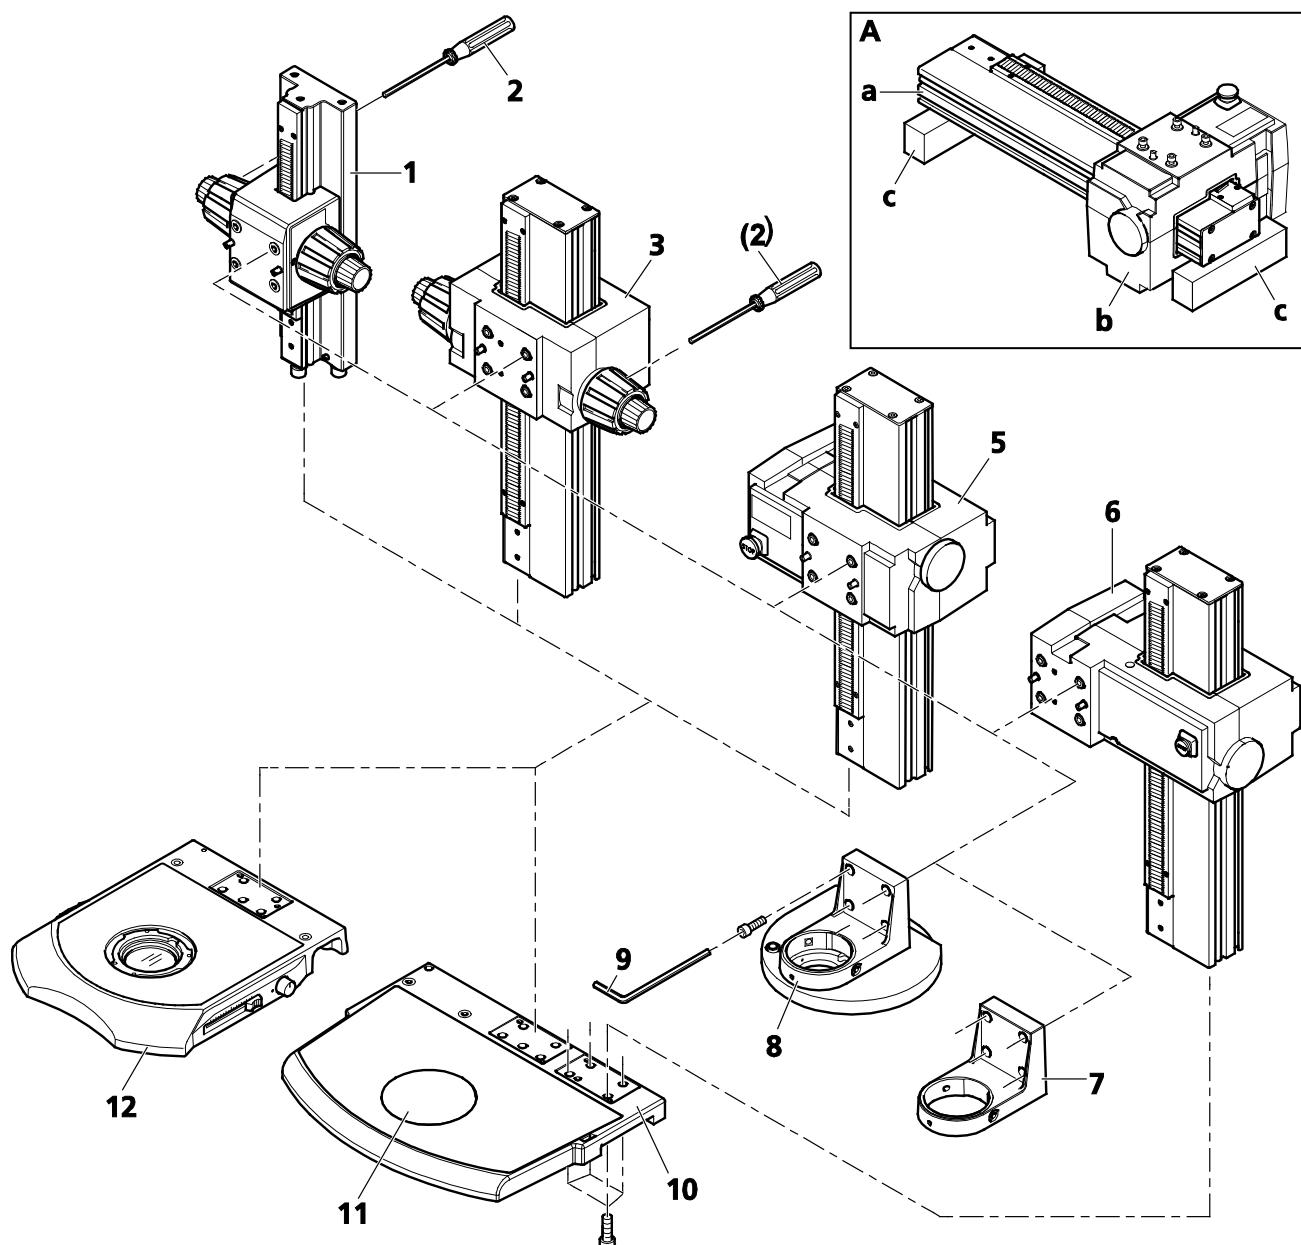

Fig. 5 Setting up the stand
! To avoid damage to the motorized focusing drive (e.g. focus motor with profile column 490 mm Fig. 5A), it should only be set down on the **back** of the column (Fig. 5/a) using sufficiently high supporting blocks (Fig. 5/c) (do **not** put it onto the rack side). The focusing unit (Fig. 5/b) of the focusing drive may not be used as a support.
The stand base 450 (Fig. 5/10) has two mounting faces for the focusing drive. The mounting face on the right-hand side is only used for the motor focus with profile column 490 mm (Fig. 5/4). The stand base 300 (Fig. 5/12) has on the central mounting face.
- Push the carrier (Fig. 5/7) or nosepiece Z 2x cod. (Fig. 5/8) onto the focusing drive until the orientation screws engage; hold it steady until the first screw has been tightened.
- Tighten all four hexagon socket screws (SW 5) with the Allen key (Fig. 5/9).
Install the carrier (Fig. 5/5) rotated by 180° to enable observation of taller samples.
- Insert plate (Fig. 5/11).
With a coarse/fine drive with column 490 (Fig. 5/3) the torque-adjusting ring is on the right-hand focusing knob, with a coarse/fine drive with column 350 (Fig. 5/1) it is on the left focusing knob.
- Insert the supplied ball-head screwdriver with SW 3 mm (Fig. 5/2) into one of the radially arranged bores on the torque-adjusting ring.